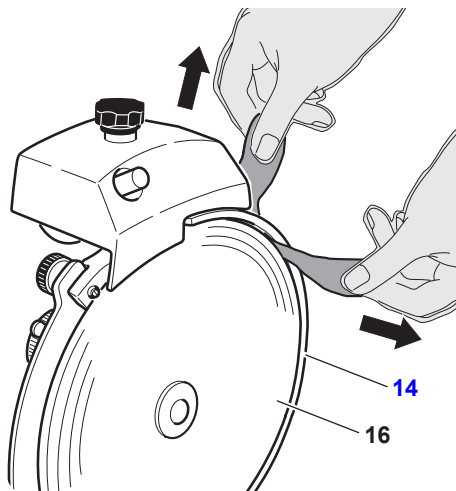

Figure 17-1
- Carefully insert the cloth between the knife (16) and knife ring guard (14). While holding the cloth between knife (16) and knife ring guard (14), work it along the inside surface of ring guard (14). Repeat this procedure as necessary (Figure 17-1).